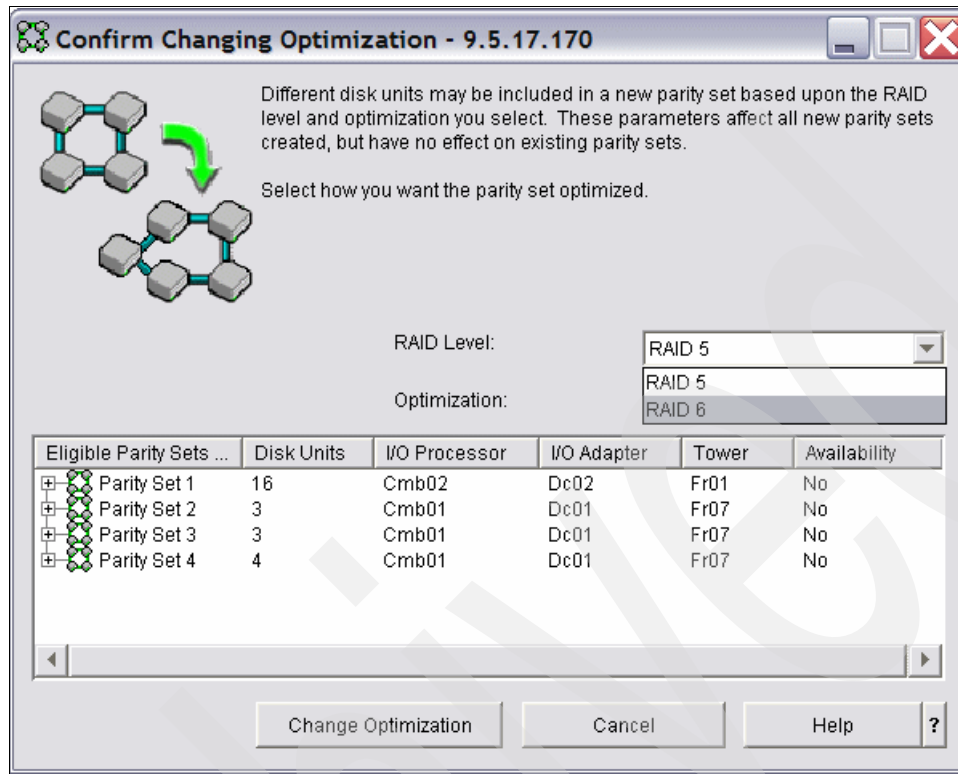

Figure 3-3 Changing the RAID Level
- On the same page use the RAID Level drop-down box to select the required RAID type, as shown in Figure 3-3. Click **Change Optimization**.